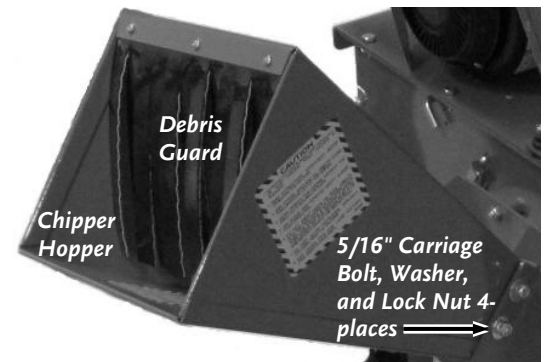

Figure 7
Tip: Insert a towel or large rag into the opening to keep the Bolts from falling into the Chipper. Position the Hopper as shown in Figure 7 with the Debris Guard hanging down
NOTE: Be sure to insert the Bolts, from the inside of the Chipper Hopper so that the threads are sticking out (**Figure 7**) and the heads are flush against the Hopper. Install the Bolts, Washers and Nuts one at a time.
2. Install a Flat Washer, then a Lock Nut on each Bolt. Initially install the Bolts and Nuts finger tight and then tighten the Nuts one (1) turn using a 1/2" Socket or Wrench (**Figure 7**). Check to see that the Hopper is centered on the Inlet Chute and then tighten the Nuts securely.